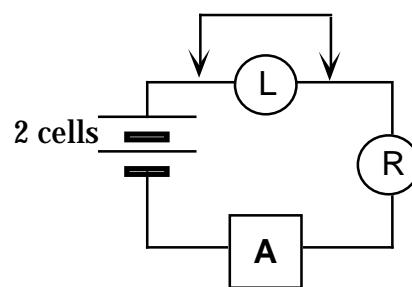

Figure 6.10a
1. **Predict:** Suppose you were to “short circuit” the long bulb in Figure 6.10a using a wire as shown in the diagram. That would, in effect, remove the long bulb’s resistance from the circuit. How would you expect the ammeter’s reading to change?